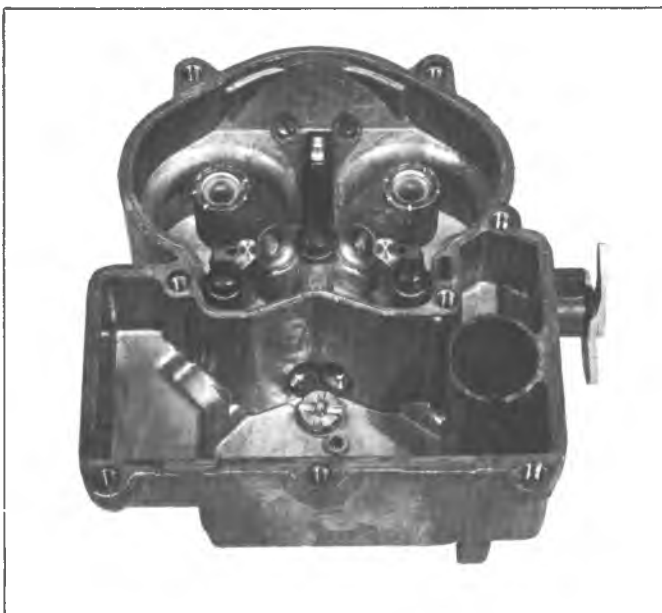

Fig. V5--Bowl Assembly--Parts Location
5. Install small aluminum ball into the bottom of pump well inlet channel and make sure the ball is seated in channel. Install the pump return spring into pump well, apply finger pressure to center it in the pump well over the inlet check ball. Figure V5 shows the float bowl and throttle body at this stage of assembly.